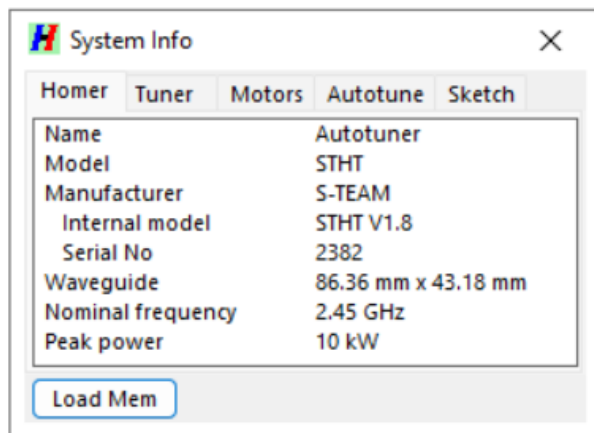

Fig. 51. **HoSim** System Info window includes the **Load Mem** button.
- Open the System Info window (Fig. 51). For the **HoSim** simulation program, the window contains an additional button, labeled **Load Mem**.